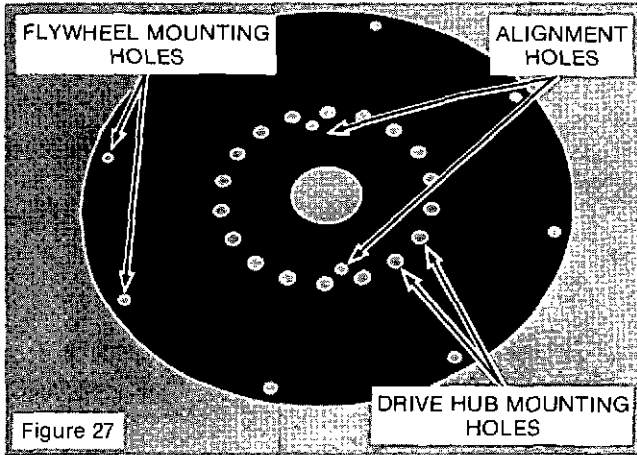

Figure 27
1. Inspect the drive discs for distorted or bent edges. (See Figure 27.) Inspect for worn mounting holes. Replace all defective discs as necessary.